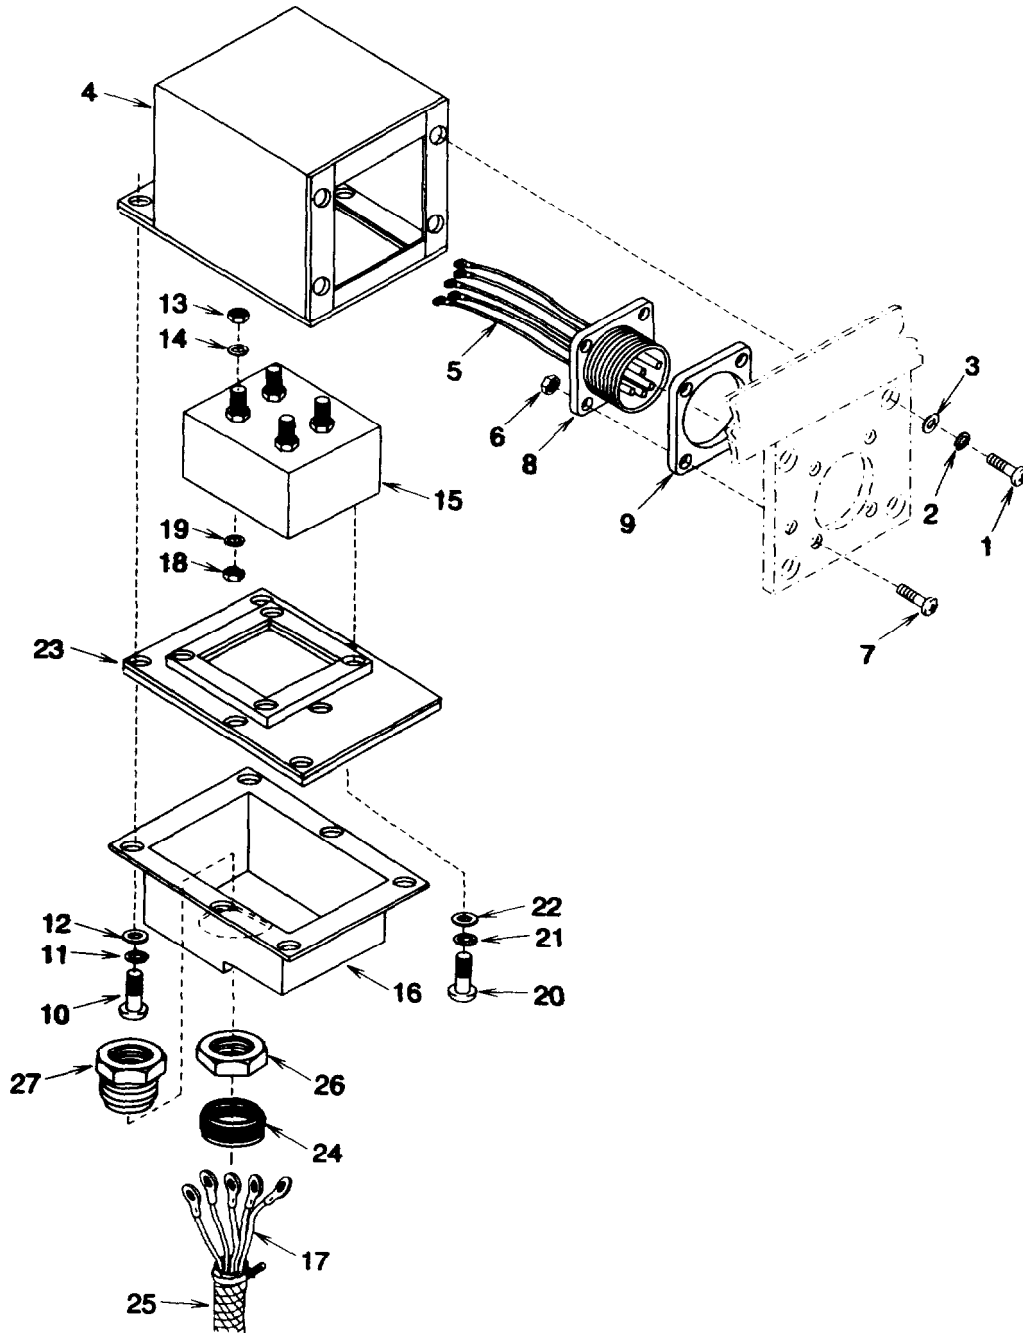

Figure 3-39. EMI Filter (FL2)
(b) Remove four screws (1) Figure 3-39, lock washers (2), and flat washers (3). Discard lock washers.
- (a) Install fitting (27) Figure 3-39 and fitting nut (26).
- (b) Slip harness nut (24) over wiring harness (25).
- (c) Insert wiring harness (25) leads into fitting (27) and secure using harness nut (24).
- (d) Install plate (23), four screws (20), new lock washers (21), and flat washers (22).